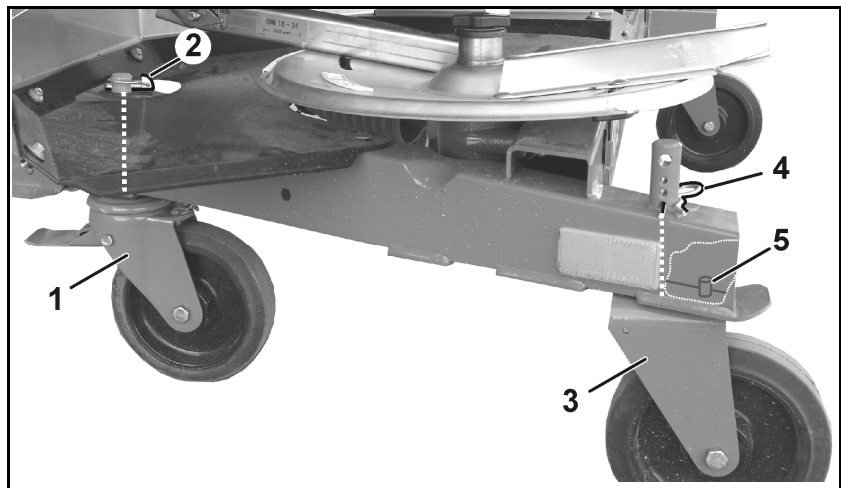

Fig. 40
5. Steerable brake rollers (Fig. 40/1), front
- o Install and secure with clip pin (Fig. 40/2),
6. Rigid rollers (Fig. 40/3), rear
- o Install and secure with safety splint (Fig. 40/4) in lowest bore,
When installing the rigid rollers ensure that the pin (Fig. 40/5) goes through the bore of the frame, thus holding the rollers in longitudinal direction.